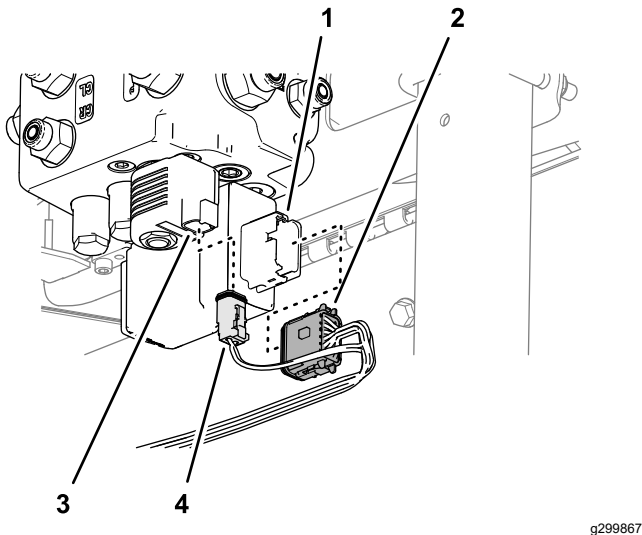

Figure 45
2. Plug the 12-pin wire-harness connector labeled EHI A KEY (GREY) into the 12-pin connector of the EHI steering-valve (Figure 45).
3. Plug the 2-pin wire-harness connector labeled EHI SOLENOID into the 2-pin connector of the EHI-solenoid (Figure 45).